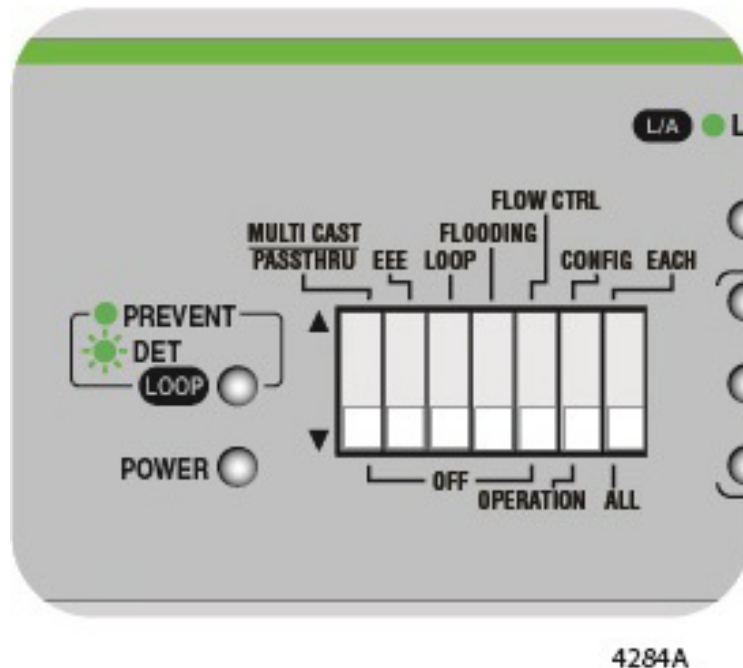

Figure 33. DIP Switch Settings for Disabling EEE
1. Set DIP switch # 2 to the DOWN position to disable this feature. See Figure 33.